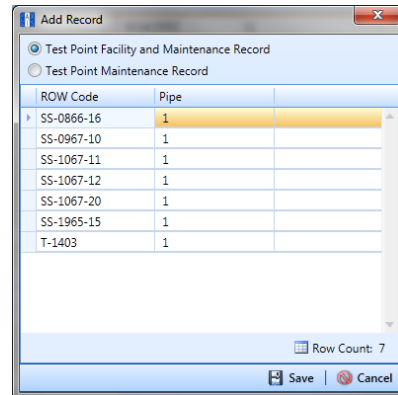

Figure 6-16. Add Record
- Select a pipeline in the *Add Record* dialog box that you want to add a new facility and maintenance record. For example, pipeline *SS-0866-16* is selected in the following example (Figure 6-16).